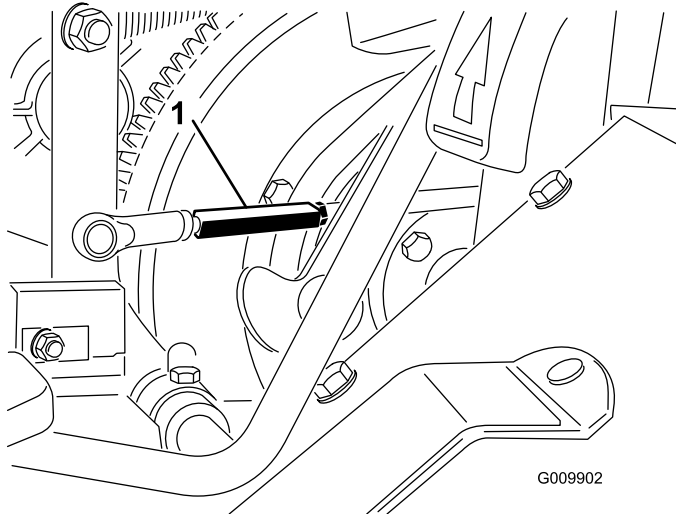

Figure 58
2. Loosen the jam nuts on each end of the traction rod barrel (Figure 58).